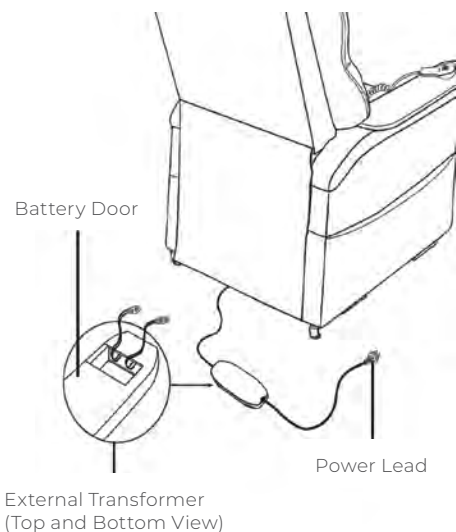

Figure 4.2 Air Lift Chair Battery Backup Location
3. Install two 9V batteries into the external transformer (**Fig. 4.2**).